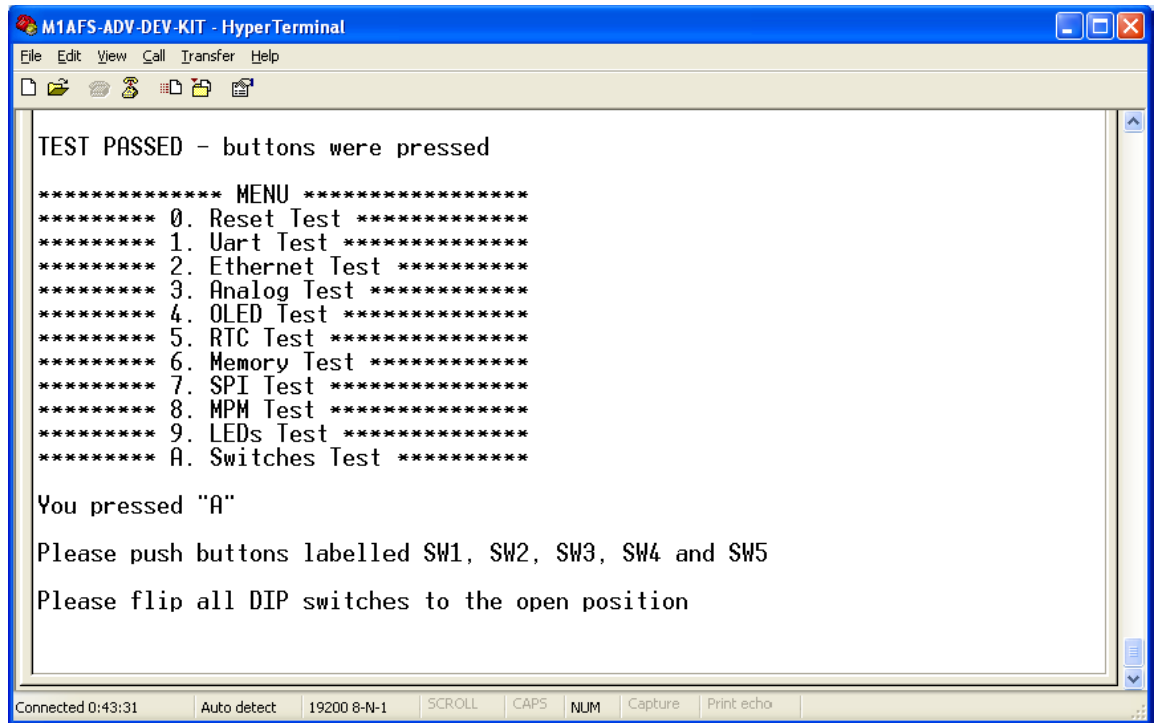

Figure C-37 · Switches Test – DIP Switches
28. Press switches on the board labeled SW1, SW2, SW3, SW4, and SW5. After all switches have been pressed, the screen shown in Figure C-37 should be displayed.